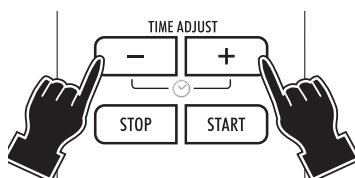

fig. 7
- 9) **Do not microwave cook eggs in their shells** (fig. 7). Pressure will build up inside and can cause the egg to explode, even after cooking has finished. Do not heat eggs cooked in their shells. Heat scrambled eggs only.